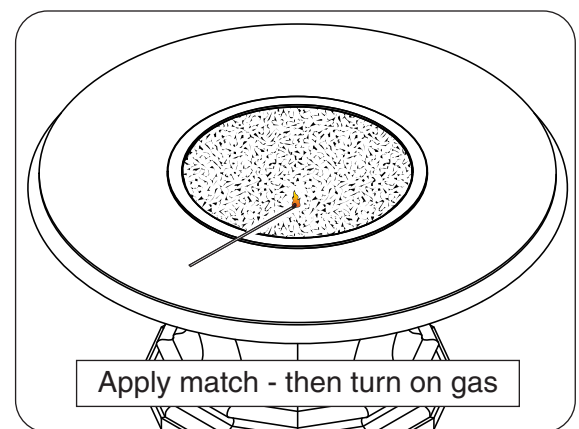

Fig. 47-1
3. Lay a lighted match on the surface of the decorative media near the burner (**do not hold the match in your hand**) (Fig. 47-1).